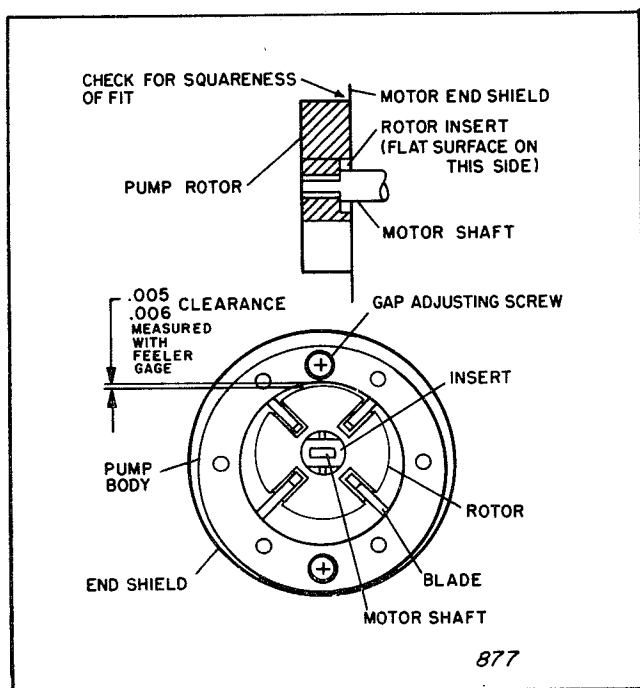

Figure 11. Checking Clearance of Air Pump Rotor
a. Install the insert in the pump rotor as shown in Figure 11, then assemble rotor on the motor shaft. When installing the rotor, take care to keep it perpendicular to the motor shaft. Attach the pump body to the motor with the two recessed screws which were removed to take it off.
b. Adjust the pump body to provide 0.005 to 0.006 inch clearance at the point shown in Figure 11. Measure the clearance with a feeler gage. Spin the motor by hand to be sure the rotor does not rub on the pump body. The proper clearance must be maintained. Be sure the recessed screws are tight after adjusting.